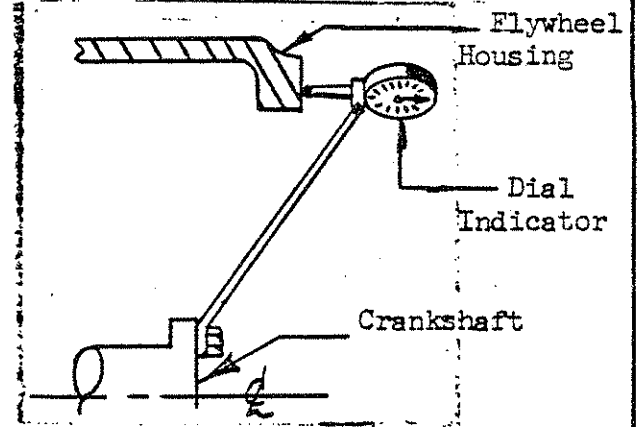

Fig. 2.
- Next, reset the dial indicator bracket in position to read deviation of the face of the flywheel housing from a plane perpendicular to the crankshaft axis as the shaft is rotated. (See Fig. 2.) Note and record opposite paired differences at top and bottom, and at the two sides. By slightly tightening appropriate capscrews, bring the deviation within .008".